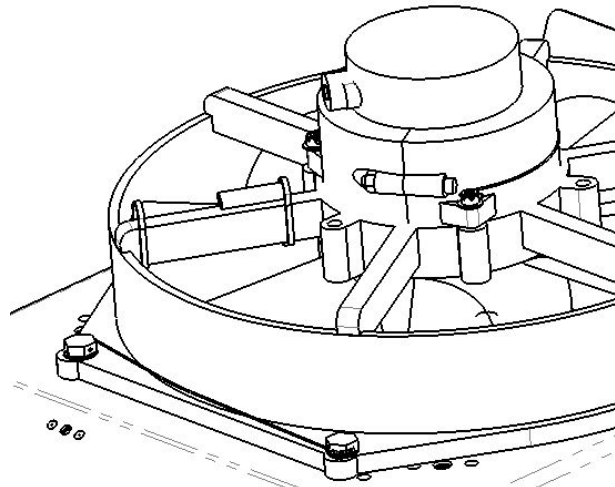

Figure 3
6. Attach 2x AS3510-0224K locking cable or 2x MS20995C32 locking wire to 4x AN5H7A fasteners as shown in Figure 3, installing per the double-twist method specified in AC 43.13-1B Chapter 7 Section 7.